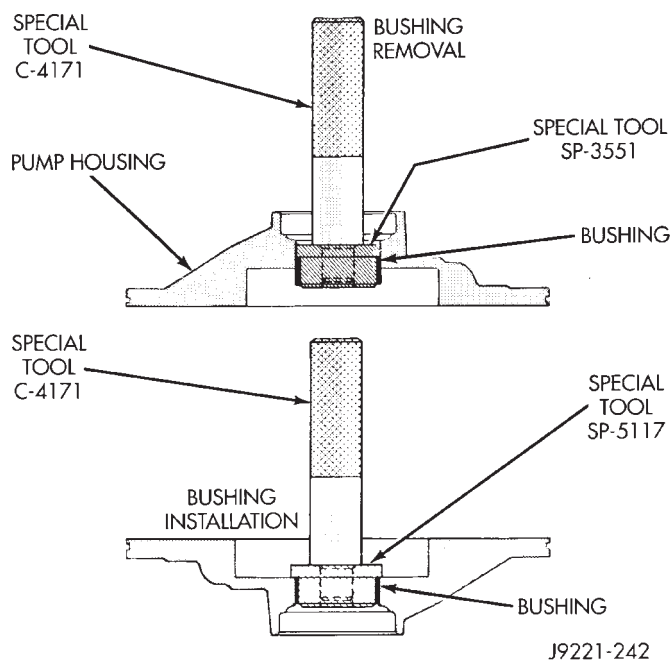

Fig. 49 Removing Oil Pump Bushing
(1) Remove pump bushing with Tool Handle C-4171 and Bushing Remover SP-3551 (Fig. 49).
(2) Install new pump bushing with Tool Handle C-4171 and Bushing Installer SP-5117 (Fig. 49). Bushing should be flush with pump housing bore.